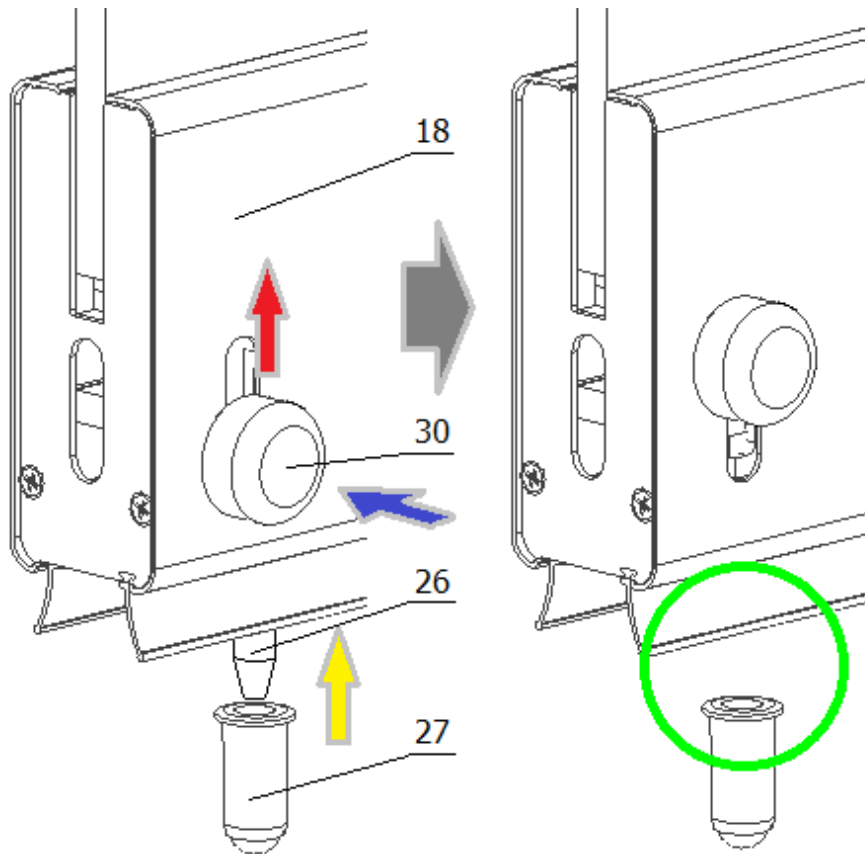

Fig.11 Unlocking the all-glass regular panel with a side lock
TO RELEASE THE PANEL LOCKS (30 and 31), PRESS the visible lock handles (BLUE arrow in Figures 11 and 12) FULLY DOWN by moving UPWARDS (RED arrow in Figures 11 and 12). The pin (26) in the lower panel profile (18) is retractable. In this way, the panel is able to travel on the track (Figures 11 and 12).